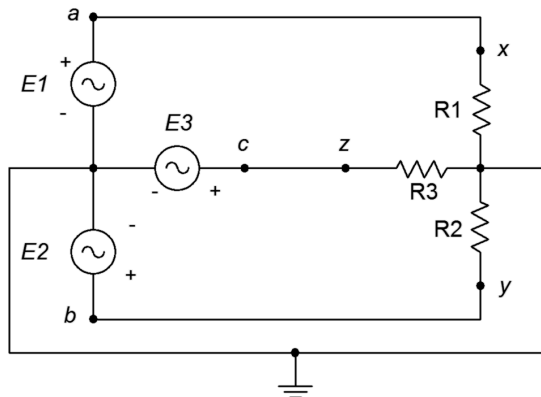

Figure 9.2
- The system of Figure 9.2 shows a 3-phase Y connected generator feeding a Y connected load. If the generator phase voltage is 120 volts and the load consists of 3 legs of $20\ \Omega$ each, find the line voltage, the line current, voltage across each load leg and the total power drawn by the load.
- Referring to Figure 9.2, if the generator phase voltage is 230 volts and the load is balanced with each leg at $12\ \Omega$, determine the line voltage, line current, generator phase current, load current, load voltage and total load power.